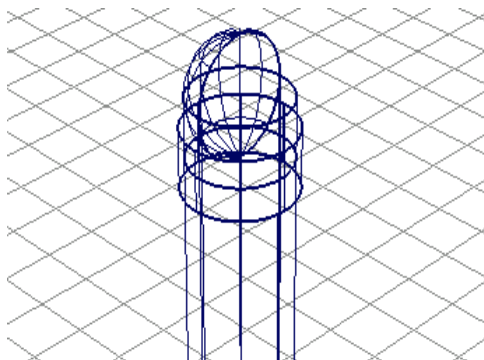

Figure 2-123 Model after creating the hemispherical top part of the eraser
4. Enter **0, 0, 1000** in the promptline and press ENTER; the hemispherical top part is created in the window, as shown in Figure 2-123.